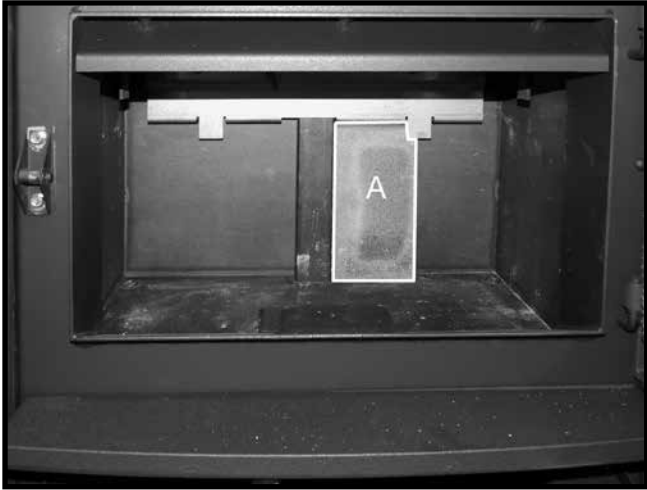

Figure 17. Installing the 1st of the rear wall bricks
1. Stand one "A" firebrick vertically behind the tab located on the brick rail. Slide the firebrick toward the center of the rear wall Figure 17.